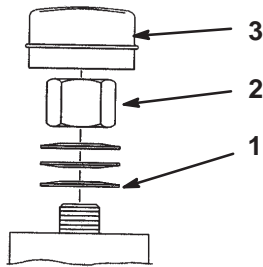

Figure 47
3. Remove the dust cap from the caster and tighten the locknut (Fig. 47).
4. Tighten the locknut until the spring washers are flat, then back off 1/4 turn to properly set the pre-load on the bearings (Fig. 47).
Important Ensure that the spring washers are installed correctly as shown in Figure 47.